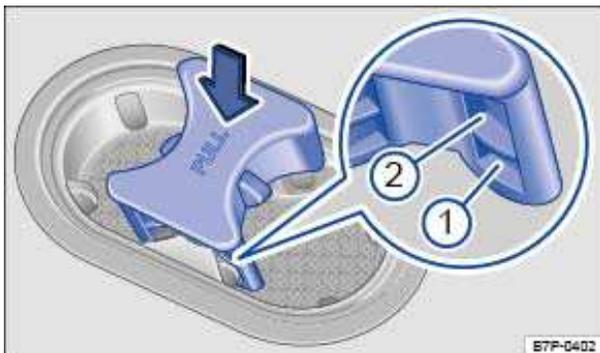

Fig. 119 Cup holder insert.
A cup holder insert ⇒ fig. 119 is factory-installed between the 2 cup holders to provide better retention for the beverage containers. The insert has fingers to provide additional retention to hold the beverages upright. The insert can be installed in 2 different height positions. In position (1), (upper position) the insert provides additional support for taller beverage containers. In position (2), (lower position) the insert provides normal support. This will help prevent the container from tipping over when accelerating or turning corners.